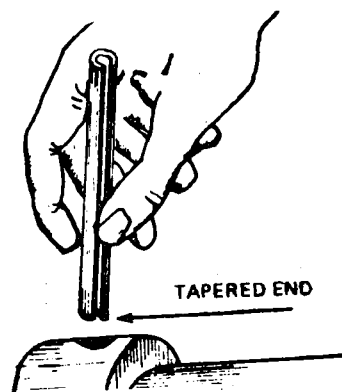

Fig. 3
- a) Insert the pin, tapered end first (Fig. 3).